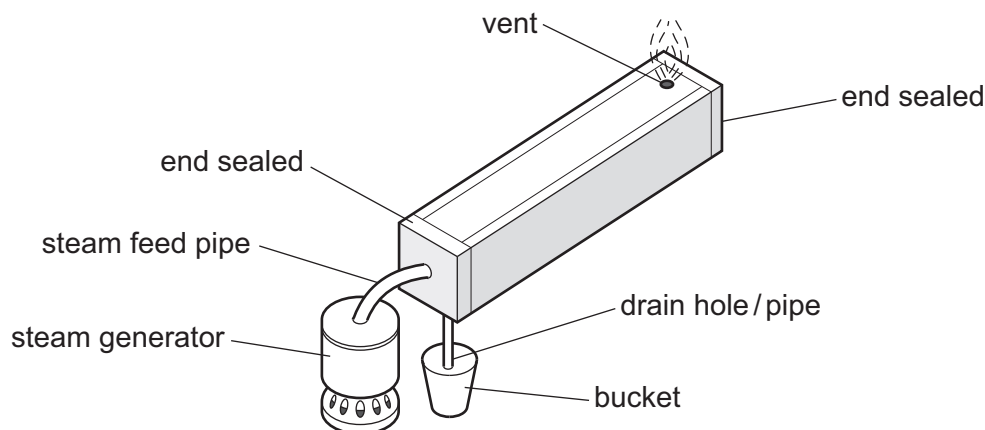

Fig. 6.1
- 6 Fig. 6.1 shows details of a steam chest that would be used to steam bend wood.